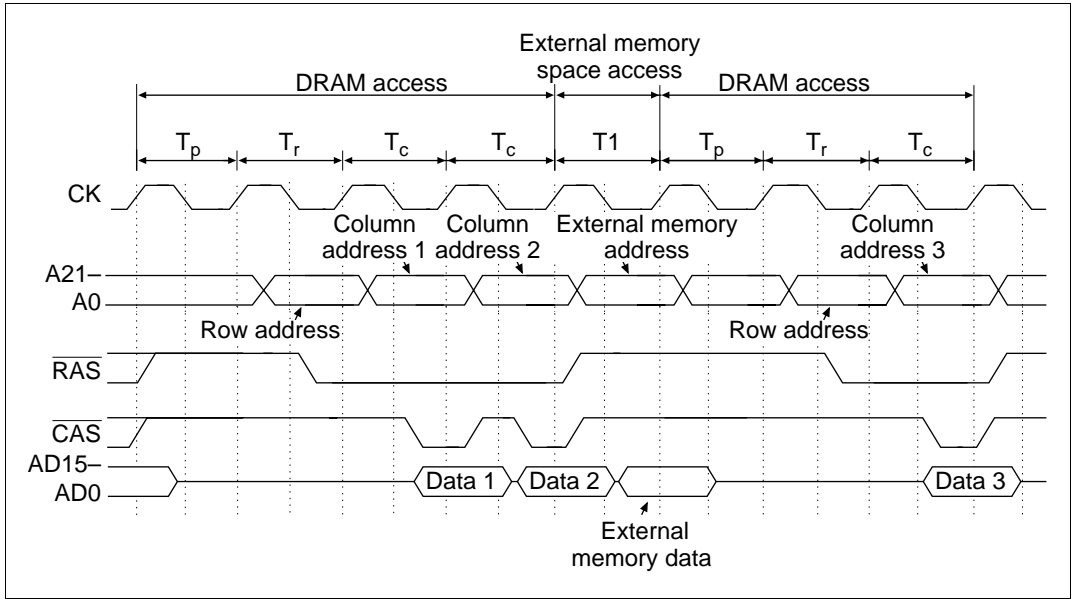

Figure 8.28 RAS Up Mode
- RAS Up Mode: When the RASD bit is cleared to 0, the $\overline{\text{RAS}}$ signal reverts to high whenever a DRAM access pauses for access to another space. Burst operation continues only while DRAM access is continuous. Figure 8.28 shows the timing when an external memory space access occurs during burst operation in the RAS up mode.